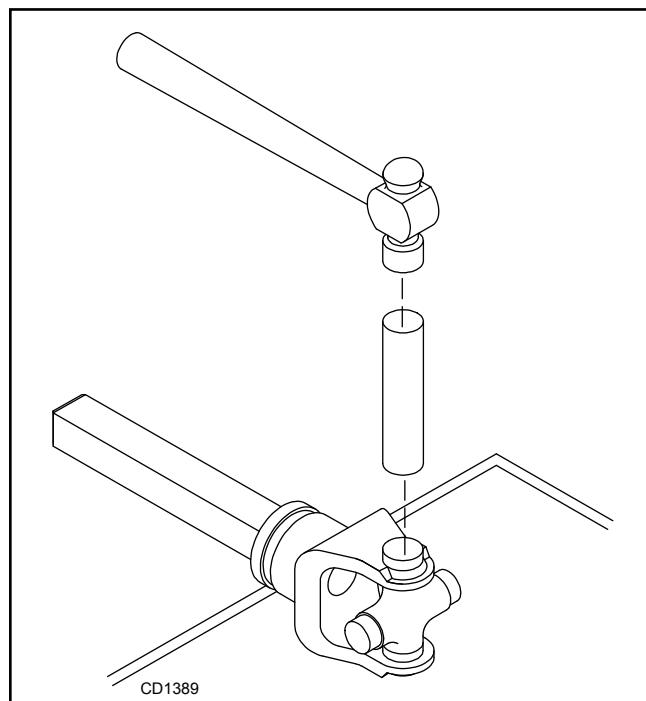

Figure 28. Install Bearing Cups
3. Seat cups by placing a drift or socket (slightly smaller than the cup) on cup and rap with a hammer. See Figure 28. Install snap ring and repeat on opposite cup.